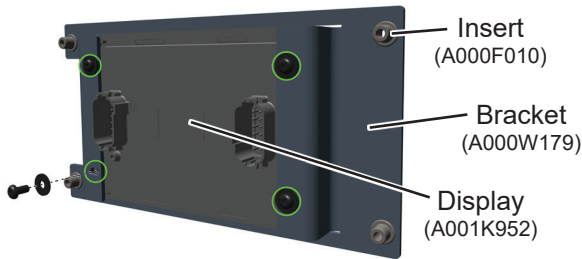

Figure 17
31. Secure Grayhill display (A001K952) to mounting bracket (A000W179) with four screws and washers removed in Step 12. See Figure 17. Final tighten screws to 10 in. lbs.
32. Install inserts (A000F010) in display bracket. See Figure 17.